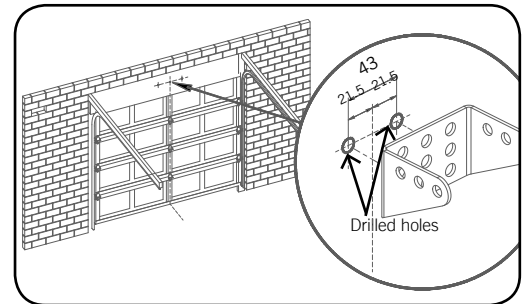

Fig. 11
- Determine the centre point on the wall above and on top of the door. Then draw two (2) lines extending 21.5mm from each side of the centre point. (**Fig. 11**)
- Centre the bracket over the intersection of these two lines. Mark centres for at least two holes (**Fig. 11**).